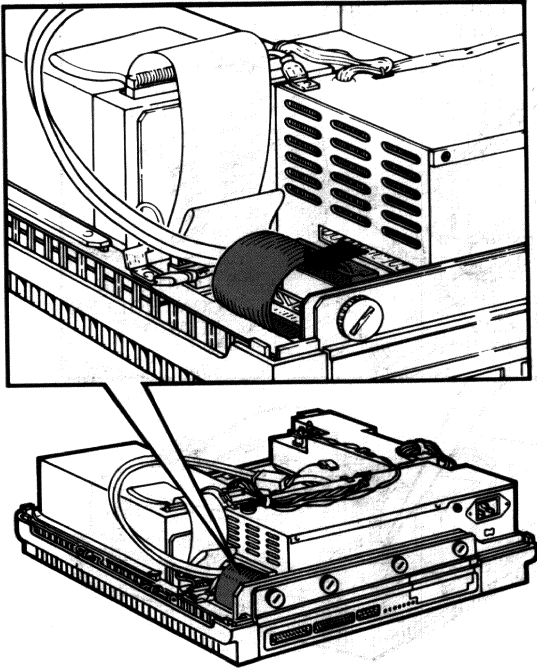

Figure 5-34 Unplugging Power Cable from Power Supply
7. Unplug the power cable from the power supply (Figure 5-34).